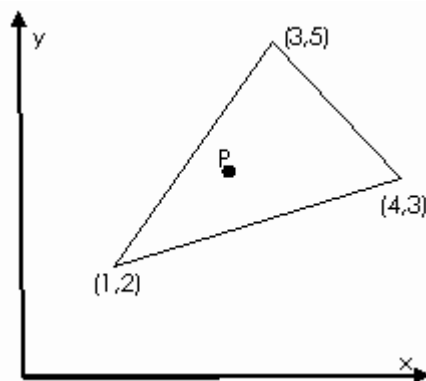

Figure: 2
b) For the point P (2.5, 4.5) located inside the triangle as shown in figure 2, find the area coordinates. [6 + 10]